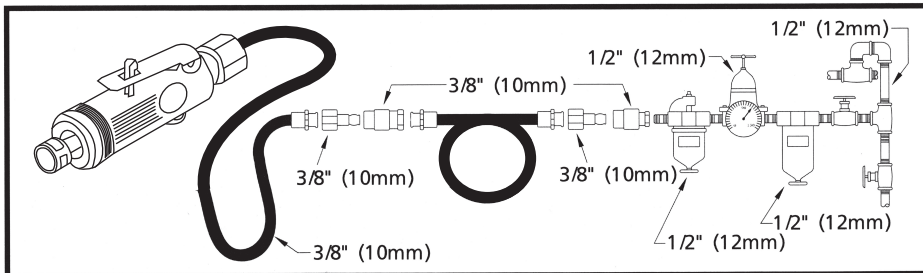

Figure 2 - Air Diagram
1. Supply tool with 90 PSI of clean, dry air. Higher pressure drastically reduces tool life. Connect tool to air line using pipe, hose and fitting sizes shown in Figure 2. Do not install a quick coupler directly into the grinder throttle handle.
Do not use quick disconnect couplings at tool. See Figure 2 for correct set-up.